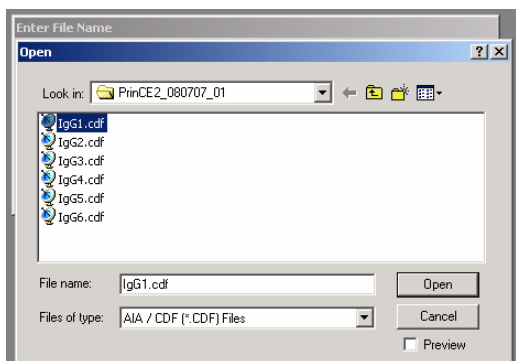

Figure A-3: Browse Directories for Data Files
3. Click the ellipsis button (...) at the right side of the window to browse from other directories as shown in Figure A-3.
This data file will be plot in the window. In Figure A-3, the data file IgG1 is opened.